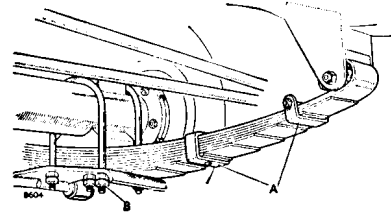

Fig. 81. Leaf clips and U-bolts
- (1) The U-bolt nuts (Fig. 81 (B)) should be tight and the lock-plates correctly secured.
- (2) Examine the spring leaves for cracks or displacement and correct as necessary.
- (3) Check that leaf clips (Fig. 81 (A)) are tight.
- (4) Check that all damper retaining nuts are tight.
- (5) Check the spring bushes for excessive wear or damage and replace as necessary.
- (6) Check that the bump rubbers are secure and undamaged; replace as necessary.
- (7) Ensure that the check straps are not excessively worn or damaged, and that the securing bolts are tight.
- (8) Check the hydraulic dampers by bouncing each corner of the vehicle in turn. Uniform movement would indicate that no attention is required, but if the damping effect is slight or erratic, the damper should be renewed.